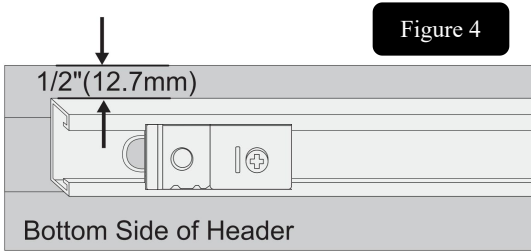

Figure 4
Step 5: Install track onto the header as shown (Figure 4). The distance from track to the header edge should be 1/2" (12.7mm) as shown.